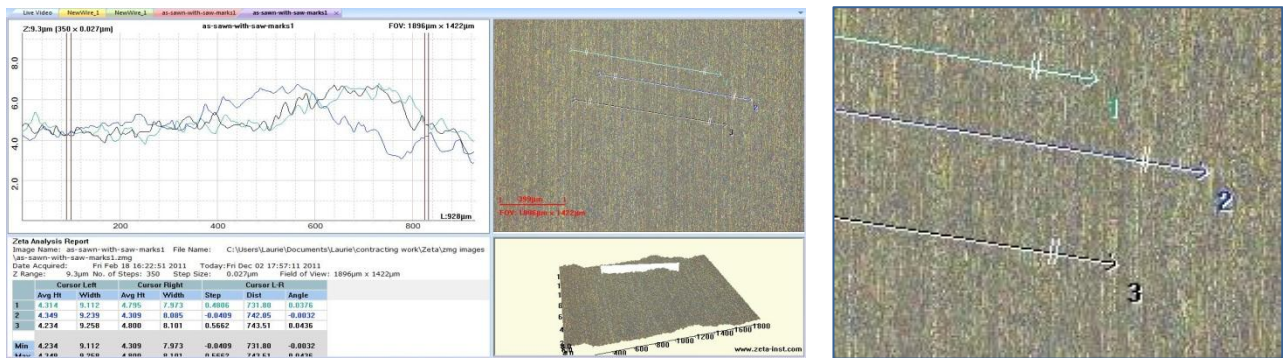

Fig. 63. Three cross section lines for step height analysis
3. Click on *Add Cross Section* again to add more lines. As each new cross section is added to the 2D view, a new profile graph is drawn and a new line of analysis results appears. There is one set of data for each cross section line. The cross section lines and analysis results are numbered for clarity. An example is shown in Fig. 63.